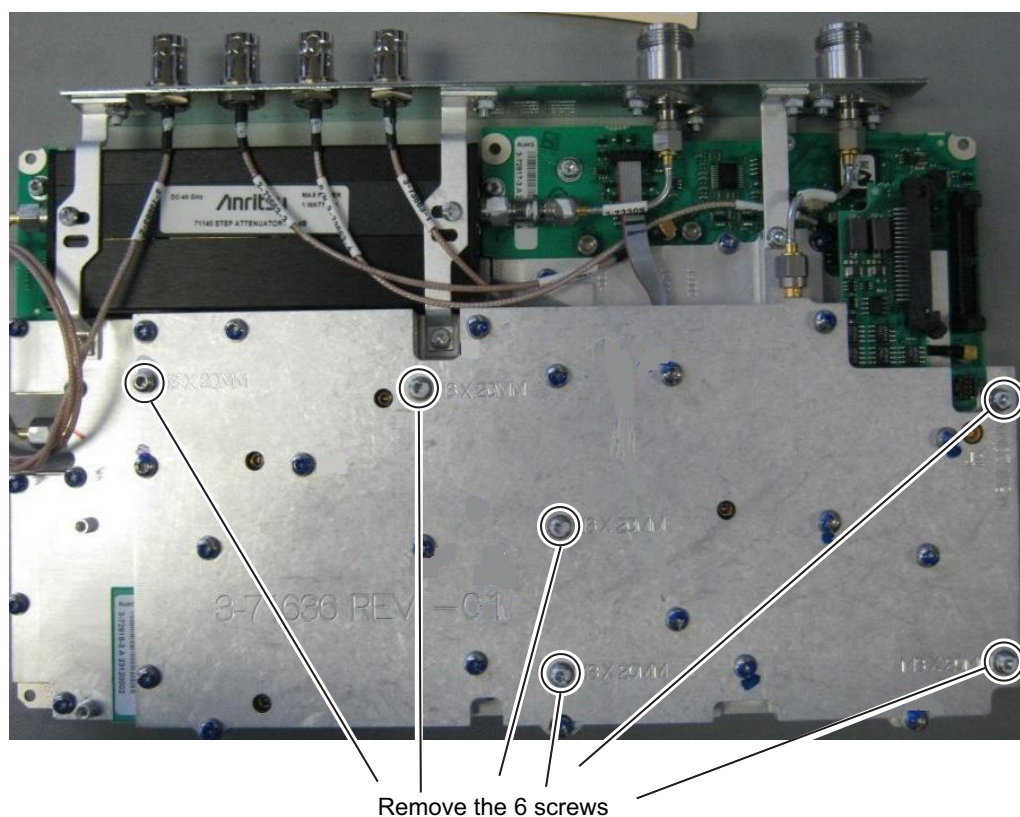

Figure 5-5. Tracking Generator Module Assembly
5. Use a Torx T10 driver to remove the six screws, denoted by the M3 x 20 MM stamping on the shield, securing the Tracking Generator to the Spectrum Analyzer Module Assembly (Figure 5-5).